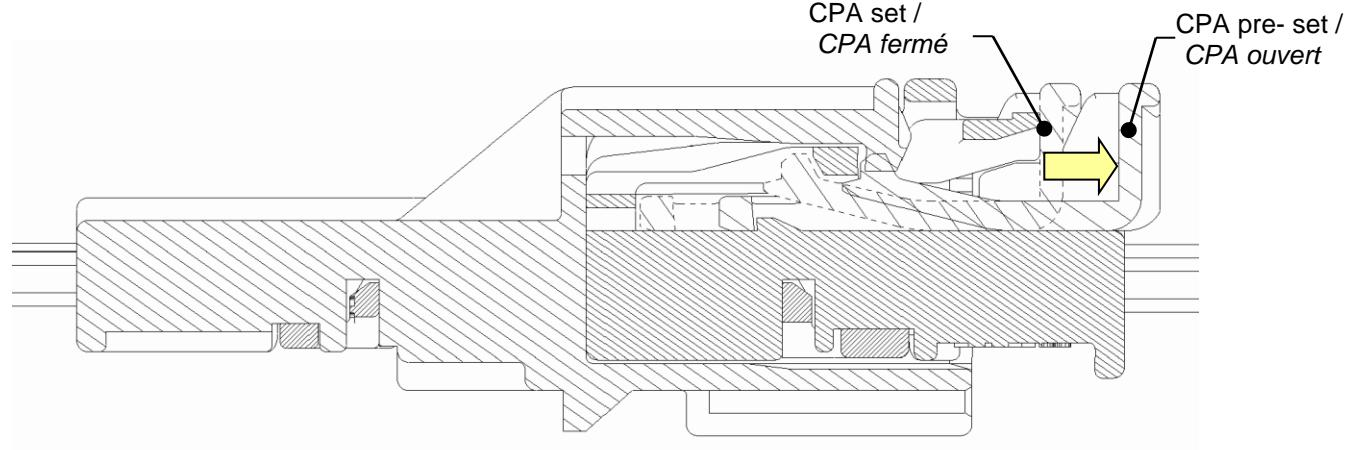

Figure 68 CPA from set to pre-set position / Ouverture du CPA
- Push the CPA from set to pre-set position (Figure 68). CPA deactivating force, according to PSA specification, is between 10N to 30N;